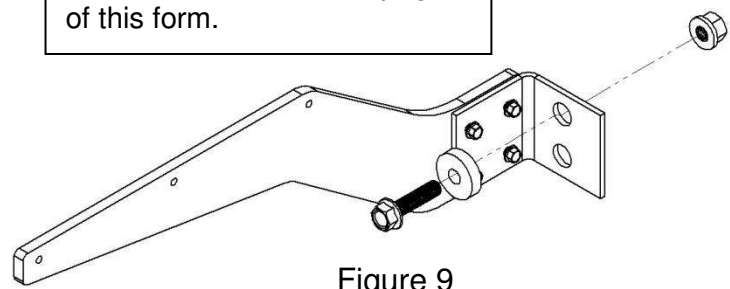

Figure 9
A. Install center bracket assembly (Figure 9).